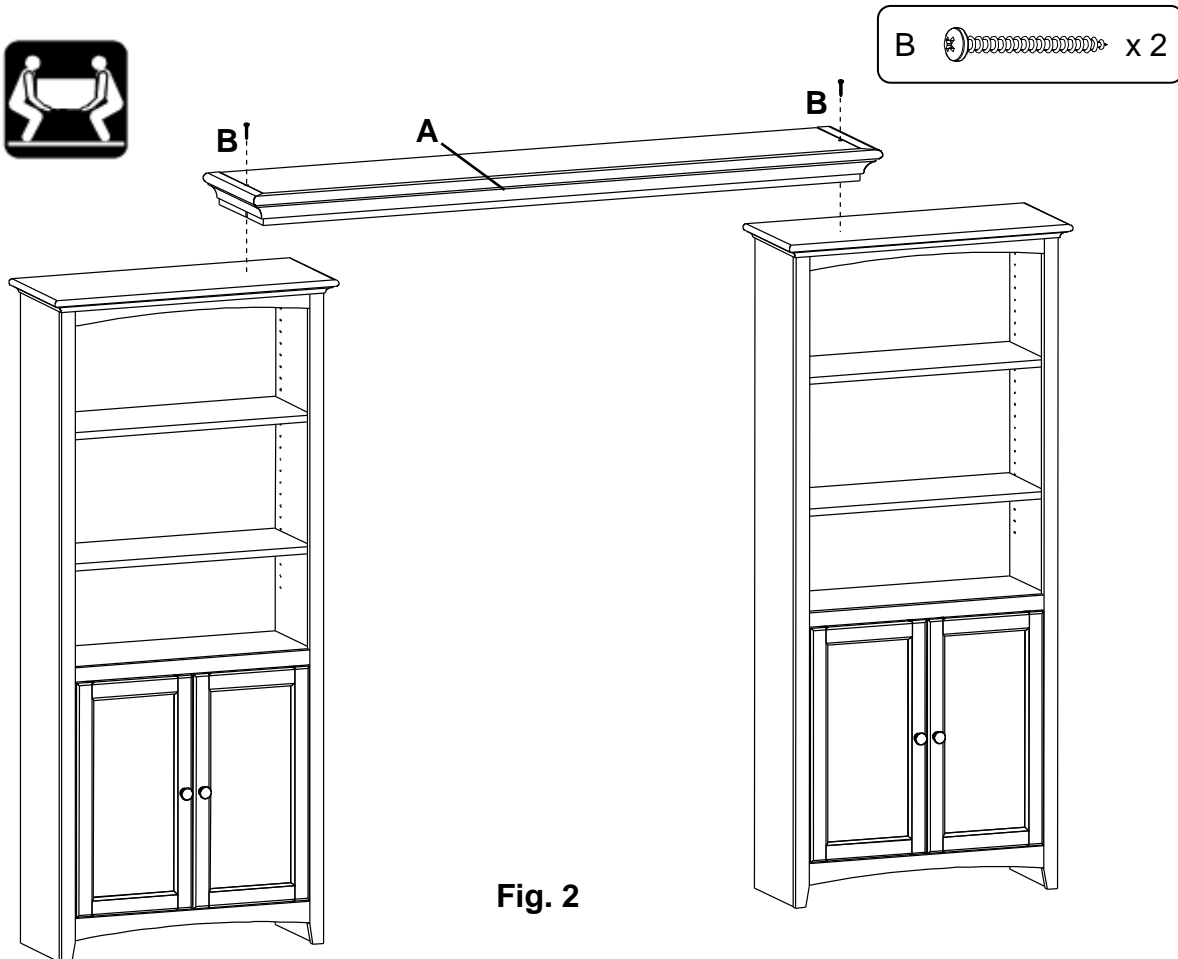

Fig. 2
2. Install your bookcases and media unit at their final destination. Position the bridge on the bookcase tops with the back of the bridge flush with the back of the bookcases. Center the bridge over the opening of the media unit being careful to have equal spacing on the bookcase tops. Using the countersunk pilot holes in the bridge as guides, insert two #8 x 1-3/4" Pan head screws (B) and attach the bridge to the bookcases. See Figure 2.